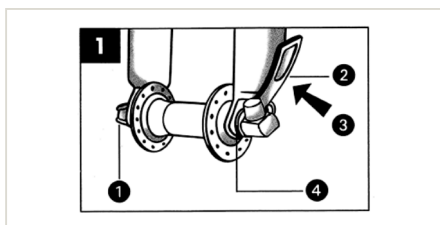

Fig. 1 Quick release closed: 1 adjusting cone · 2 quick-release lever · 3 closed · 4 safety washer
1. Are both wheels correctly and firmly fitted? Check the quick releases or axle nuts (Fig. 1–3).